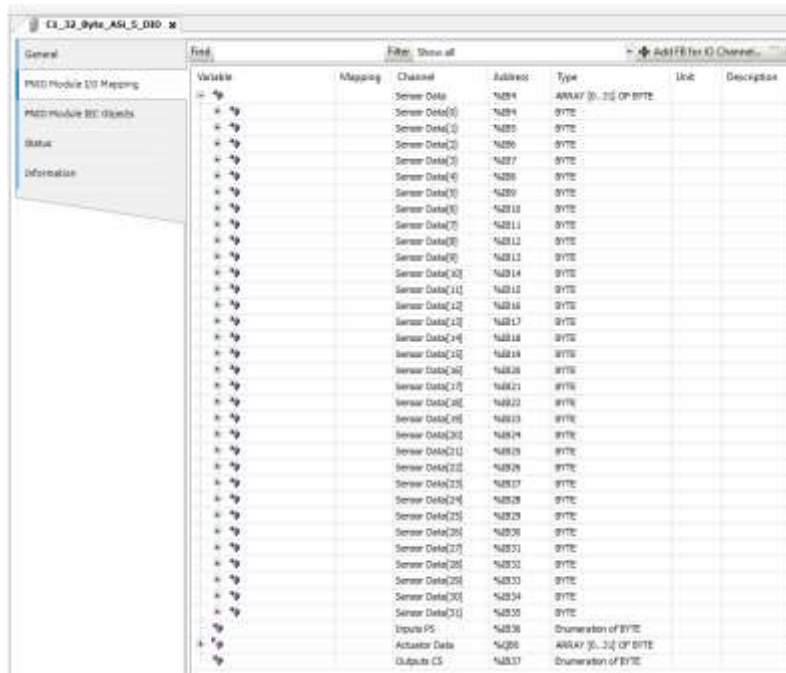

Figure 37. PNIO Module I/O Mapping
- Expand **Sensor Data variable** (see Figure 37).